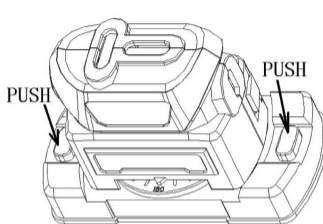

Fig. 4
3. Fix the tool. If needed, please press the push pin button on the base when operating on the soft surface (Fig.4).